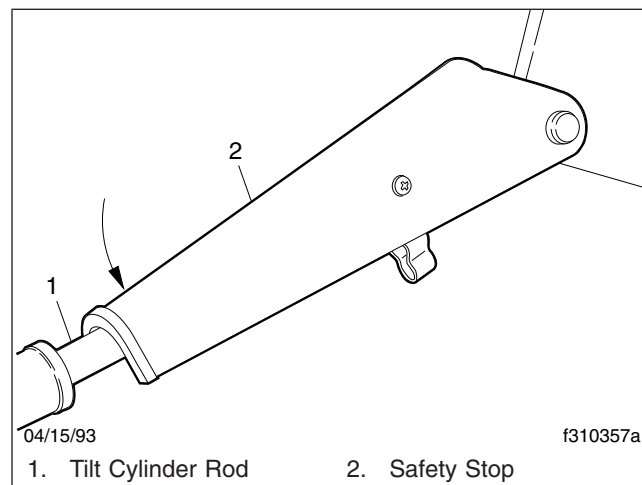

Fig. 2.14, Safety Stop Engaged
8. When the cab reaches a 30-degree angle, stop tilting the cab by letting go of the pump button. Engage the safety stop on the right tilt cylinder rod. See Fig. 2.14. The safety stop prevents the cab from accidentally dropping below this position.